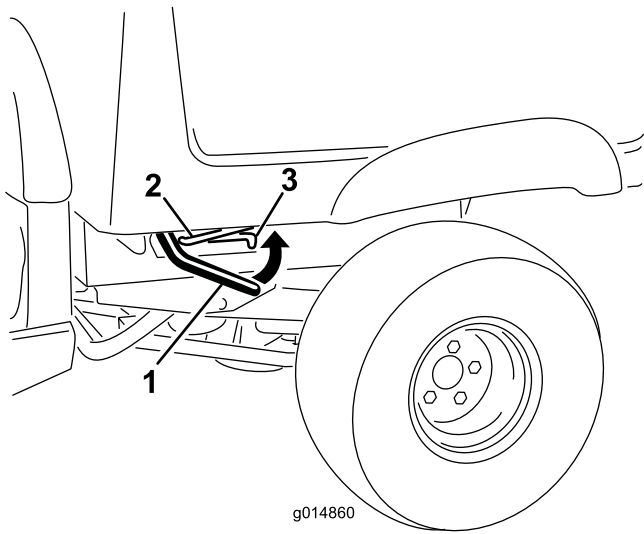

Figure 13
1. Lift the lever on either side of the box and lift the box up (Figure 13).
1. Raise the cargo box slightly by lifting up the latch lever (Figure 13).